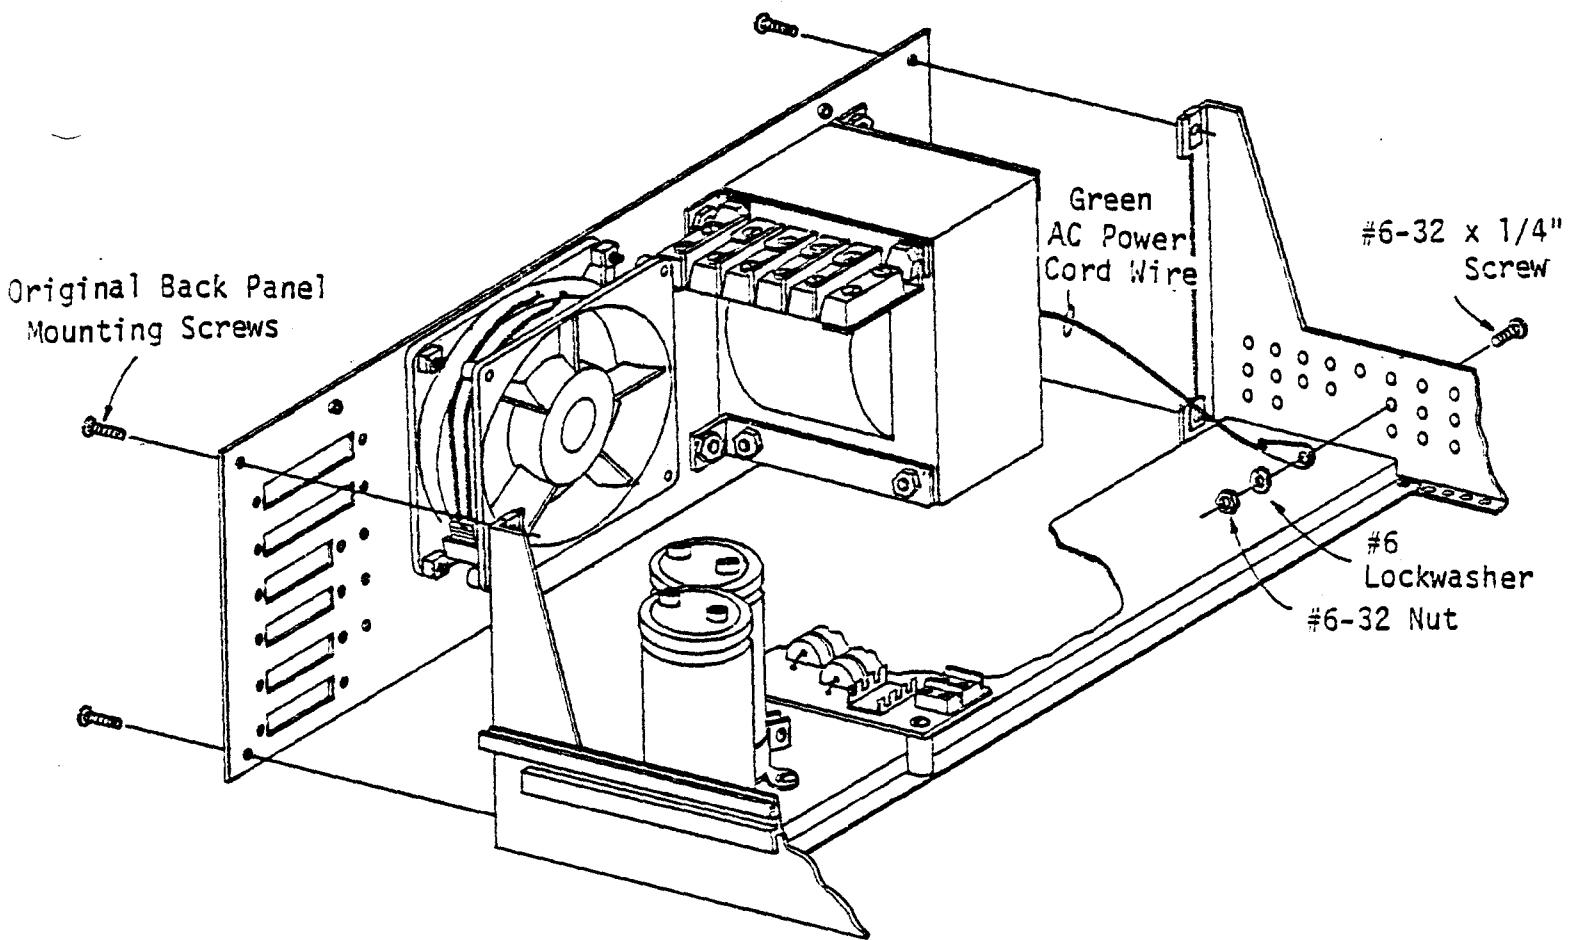

Figure 5-60. Back Panel Mounting
(Figure 5-60)**
1. Mount the back panel to the mainframe as shown in Figure 5-60 using the original back panel mounting screws. (Tighten these screws down until they are just firm.)